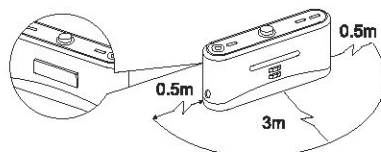

Figure 1
2. No obstacle or hollow areas 3m away from the Docking Station in the front and 0.5m on the right and left. (Refer to Figure 1)